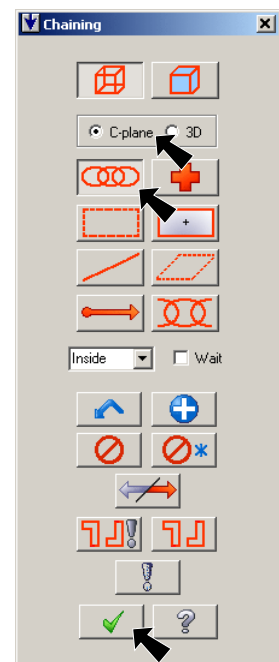

Fig. 8
Step 5. Select **C-plane** in the Chaining dialog box, Fig. 8.
Step 6. Click **Chain** button in the Chaining dialog box, Fig. 8.